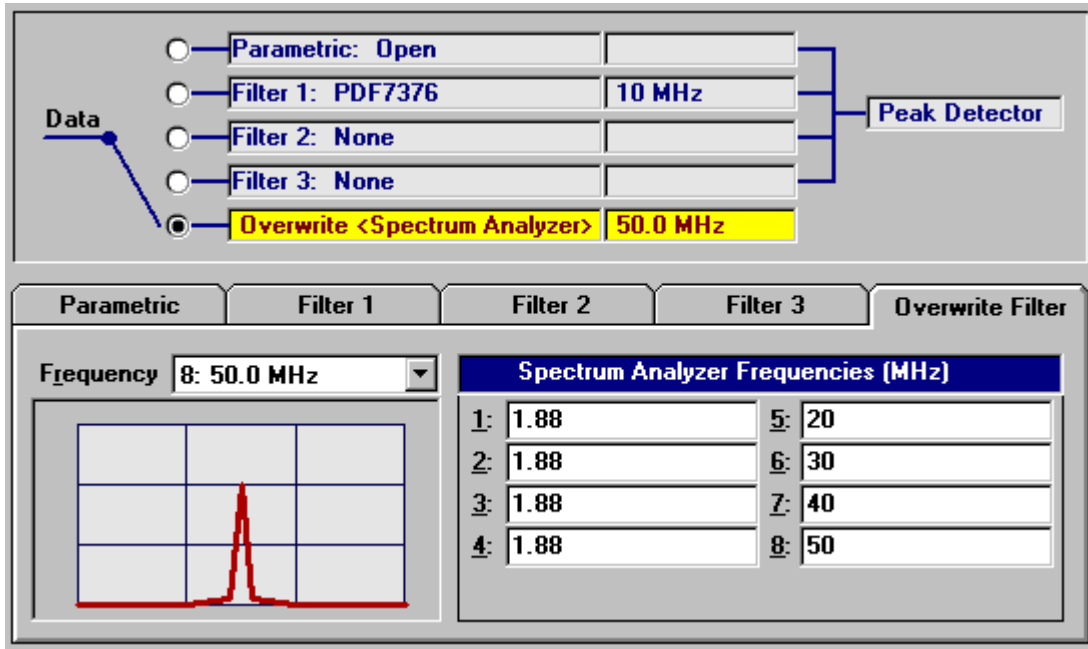

Figure 8: *Overwrite Filter* Tab
- The *Overwrite Filter* tab allows you to specify up to eight different overwrite frequencies for the Spectrum Analyzer. You can select one frequency as a default parameter of the Spectrum Analyzer in the *Frequency* combo box (see Figure 8).